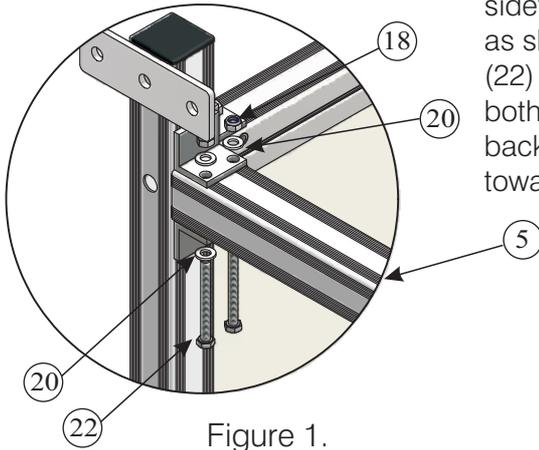

Figure 1.
1.) Attach the backbar (5) by sliding in-between the brackets on the sideframes and line up the holes. You will need 3 people for this as the sideframes need to be held with the uprights face down on the floor, as shown in Figure 2. When the backbar is in position, use 2 x BOL472 (22) to attach to the sideframes (Figure 1). Fix with a plastic washer both sides (20) and a nylock nut (18). When doing so, make sure the backbar is orientated so that the foot plate in the middle is pointing upwards towards the sky as figure 2.